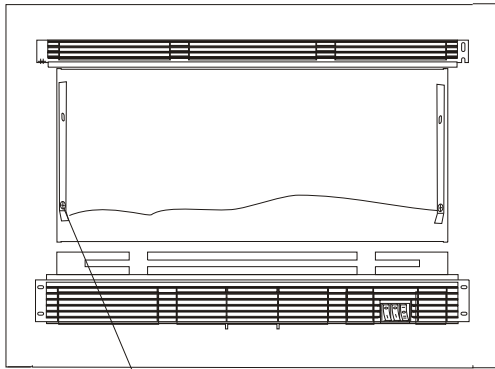

Fig 3
5. Remove the screw securing the ember bed position in the side of the ember. (see fig 3).